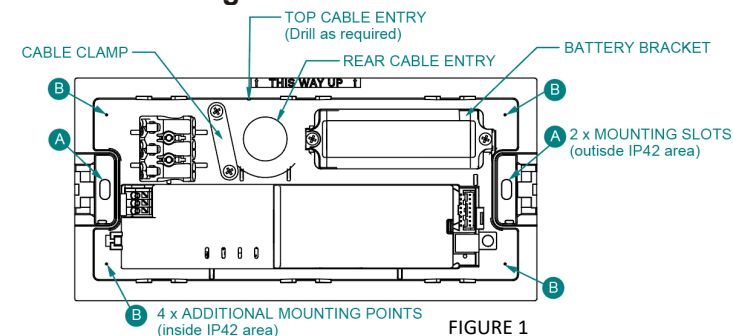

FIGURE 1
- Mark and install box using Mounting Slots (A) or Additional Mounting Points (B) inside box. If using option B, provisions must be done to ensure mounting points are sealed (see Figure 1)